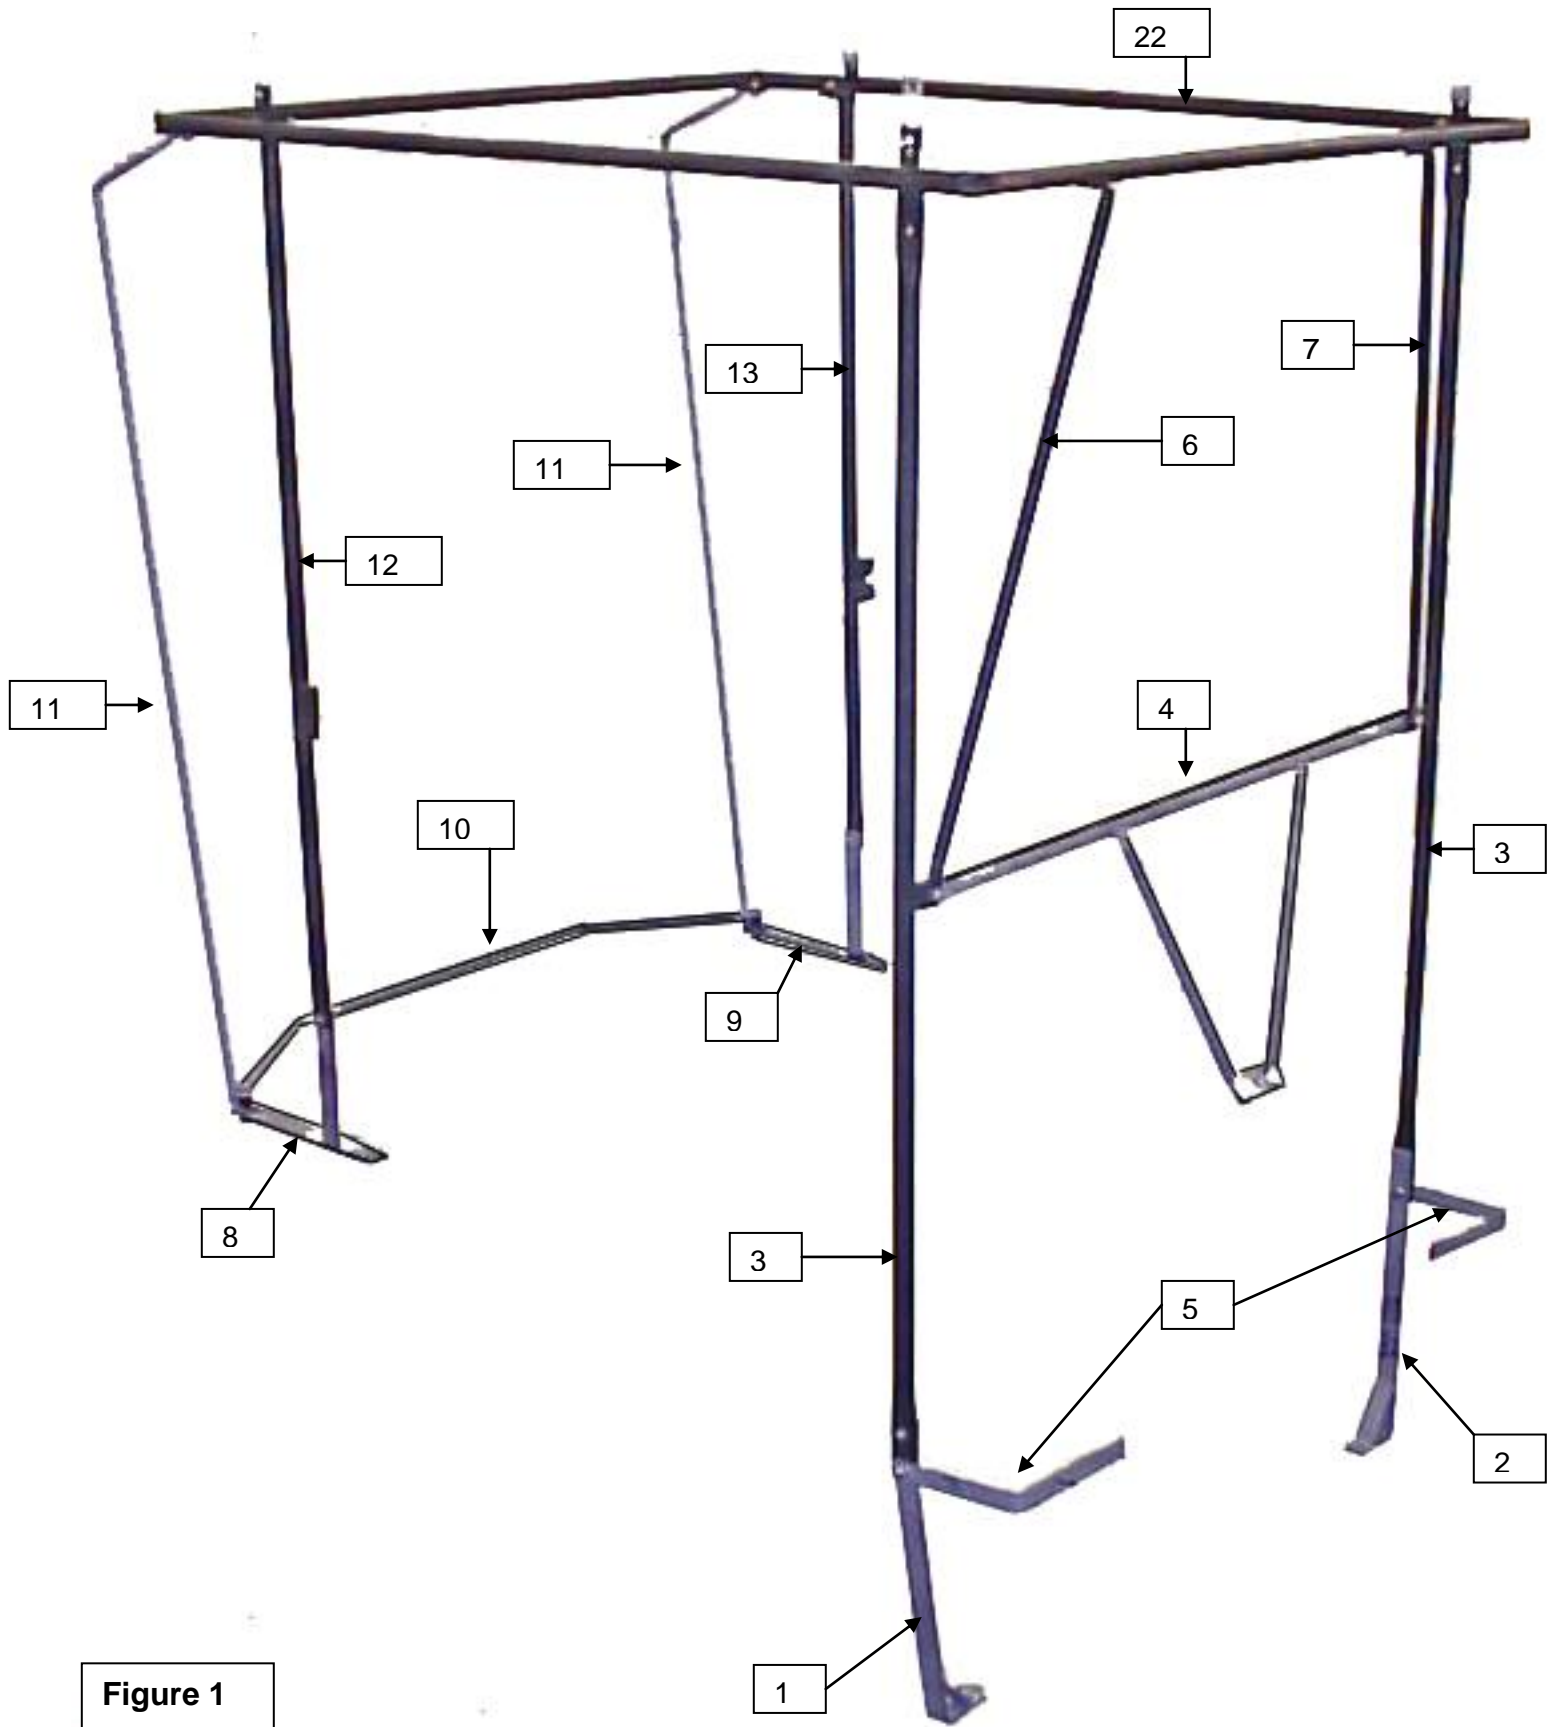

Figure 1
Step 1; See Figure 1:
Identify the steel parts by using Figure 1.